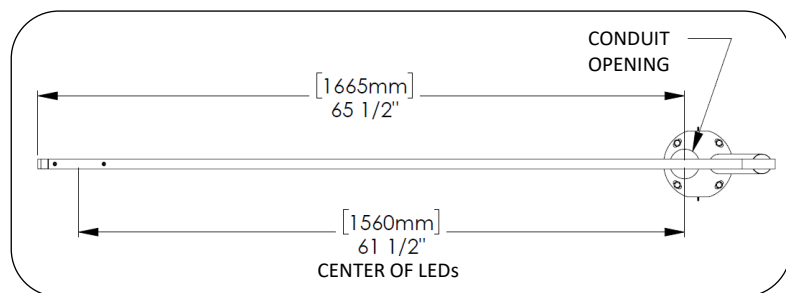

Fig. 1 – spacing from conduit to center of LEDs
- Landscape Forms is not responsible for site preparation, footings, or electrical wiring. Refer to Fig. 1 for spacing from light source to conduit.